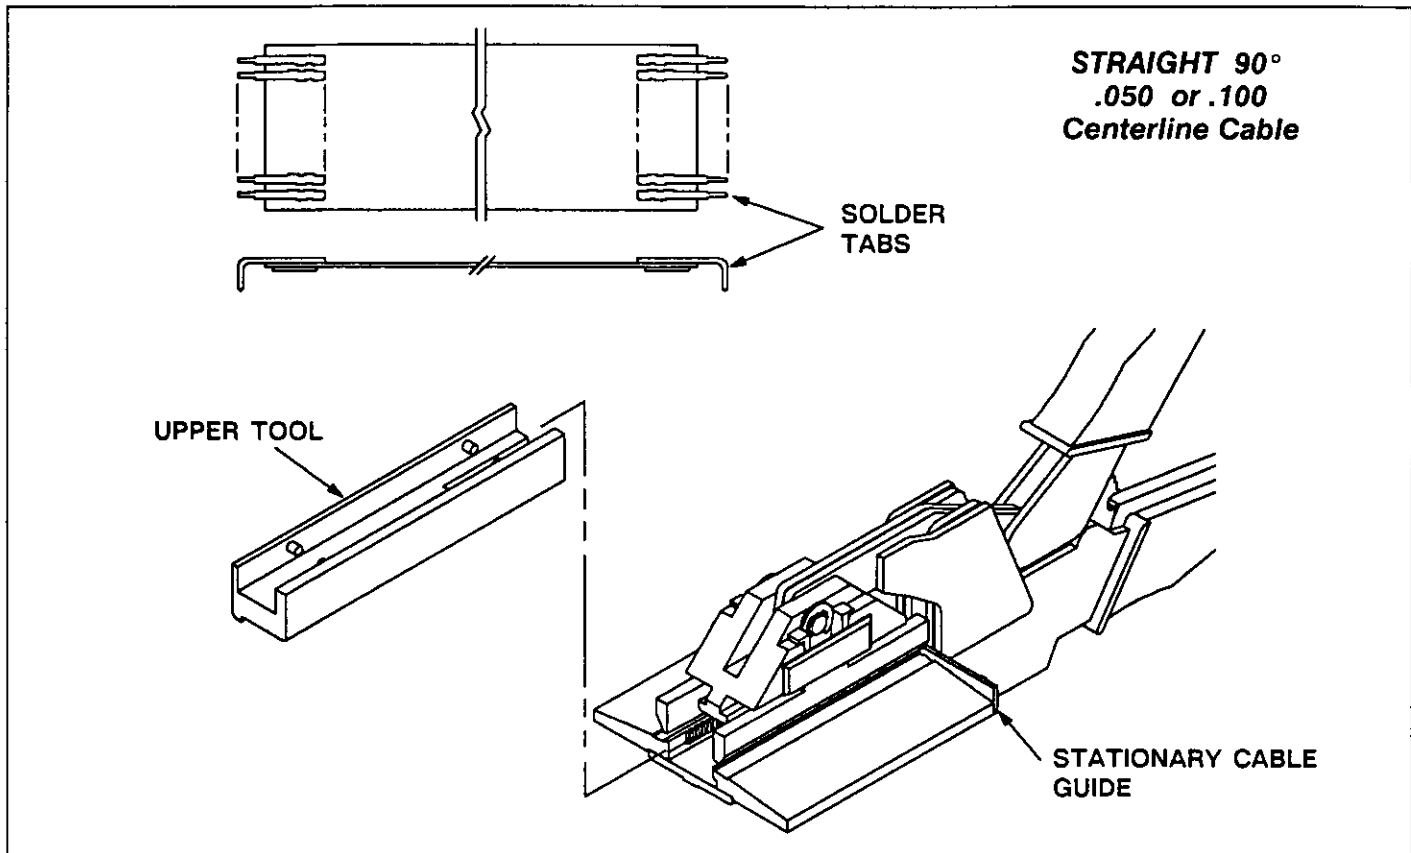

Fig. 5
C. .050 and .100 Centerline Cable Straight 90° (Figure 5)